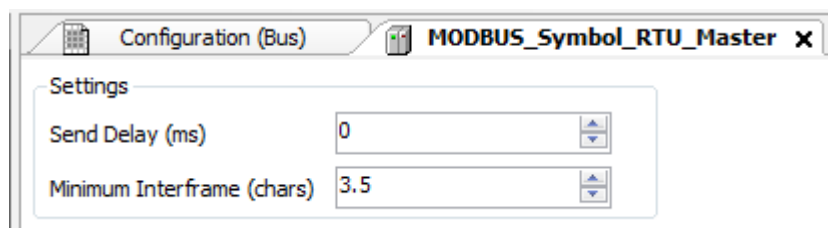

Figure 84: MODBUS RTU Master Configuration Screen
- Configure the general parameters of the MODBUS Master protocol, like: transmission delay times and minimum inter-frame as in Figure 84.